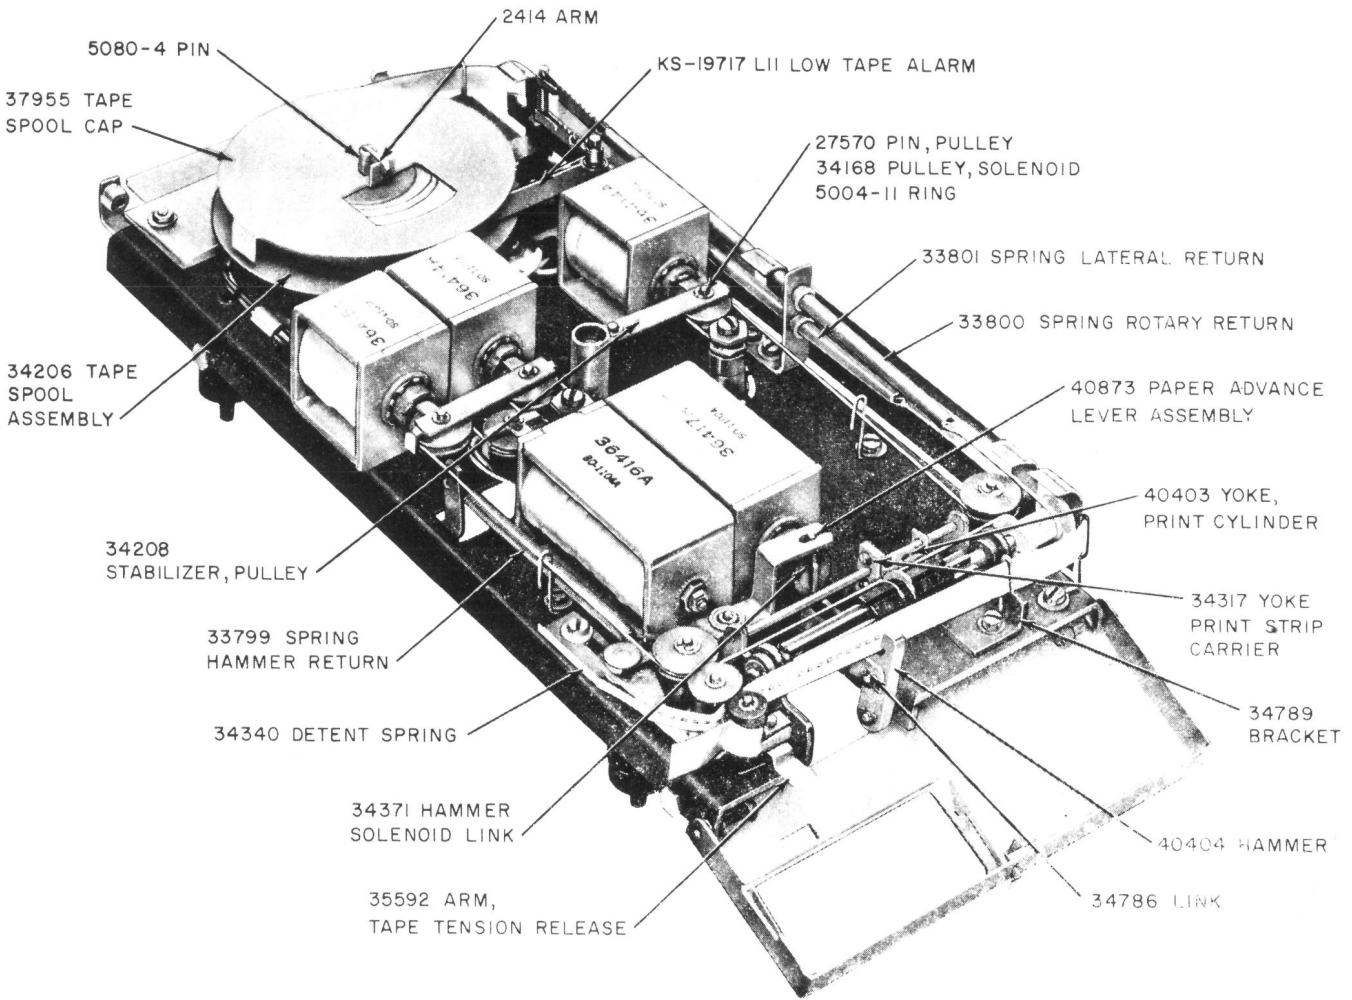

Fig. 1—KS-19717 L5 Tape Printer—Cover Removed
2.01 Fig. 1 through 6 included in this part show the various piece parts in their proper relation to other parts of the tape printer. The piece-part numbers of the various parts are given with the names of the parts as assigned by the manufacturer.